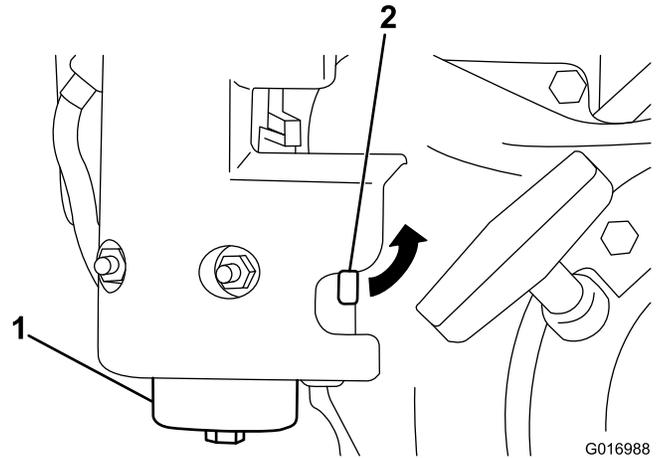

Figure 28
1. Close the fuel shut-off valve and unscrew the bowl from the filter body (Figure 28).